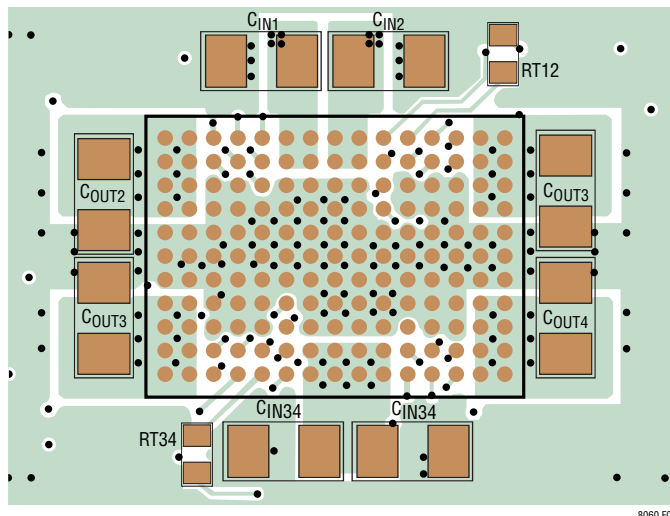

Figure 3. Layout Showing Suggested External Components, GND Plane and Thermal Vias
Most of the headaches associated with PCB layout have been alleviated or even eliminated by the high level of integration of the LTM8060. The LTM8060 is nevertheless a switching power supply, and care must be taken to minimize EMI and ensure proper operation. Even with the high level of integration, you may fail to achieve specified operation with a haphazard or poor layout. See Figure 3 for a suggested layout. Ensure that the grounding and heat sinking are acceptable.
6. Use vias to connect the GND copper area to the board's internal ground planes. Liberally distribute these GND vias to provide both a good ground connection and thermal path to the internal planes of the printed circuit board. Pay attention to the location and density of the thermal vias in Figure 3. The LTM8060 can benefit from the heat sinking afforded by vias that connect to internal GND planes at these locations, due to their proximity to internal power handling components. The optimum number of thermal vias depends upon the printed circuit board design. For example, a board might use very small via holes. It should employ more thermal vias than a board that uses larger holes.